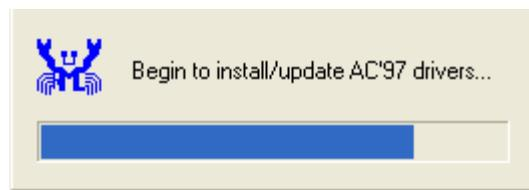

Figure 6-24: AC'97 Driver Installation
Step 10: The driver installation begins. See **Figure 6-24**.